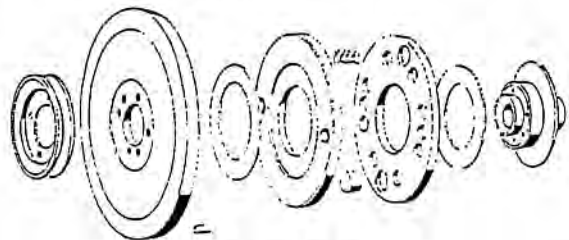

Fig. 03-10/6
Note: If the hub (19) or the flywheel (9) has to be replaced (Fig. 03-10/4) use Hub and Flywheel Part No. 189 030 09 08 which are properly balanced for repair work. In this repair version the hub is fixed in position in relation to the crankshaft with the two half bores and the flywheel is fixed in position in relation to the hub with the two bores.